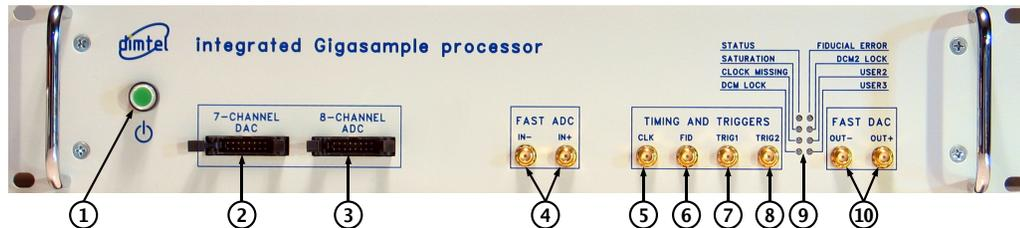

Figure 2: Front panel features
2. Connect RF clock at  $-3$  dBm nominal level (Fig. 2, item 5);
3. Connect single-ended high-speed ADC input signal to Ain+ (Fig. 2, item 4). The FS swing of this signal should be 190 mV peak-to-peak;
4. Connect a  $50\ \Omega$  terminator to Ain- (Fig. 2, item 4);
5. Connect high-speed DAC output(s) (Fig. 2, item 10) to the appropriate back-end unit;
9. Push the power button (Fig 2, item 1) to turn on the system;
11. Push the power button (Fig 2, item 1) to turn the system off;
- Connect the 16-pin ribbon cable between the 7-channel **DAC** (Fig. 2, item 2) and the 8-channel **ADC** (Fig. 2, item 3);
- Connect 509 MHz clock to the **RF** clock input (Fig. 2, item 5);
- Terminate `Ain-` fast **ADC** input (Fig. 2, item 4);
- Terminate `Aout-` fast **DAC** output (Fig. 2, item 10);
- Make sure fiducial input is not driven (Fig. 2, item 6);